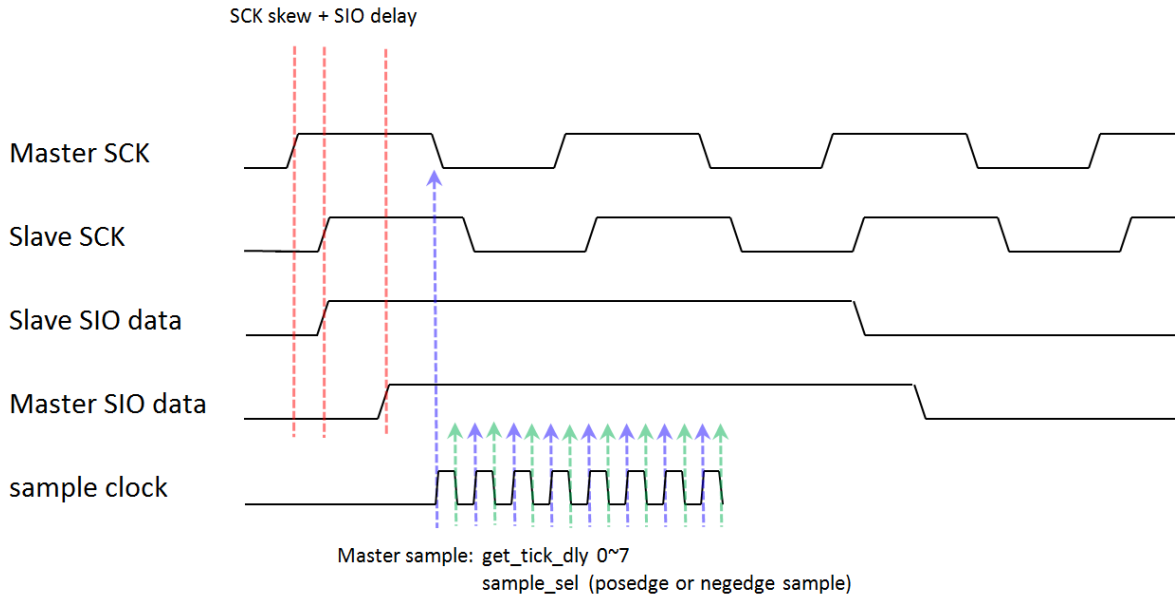

Figure 6.1-4. SPI master controller delay sample
- Slave feeds back SIO data to master. Each interval of sample delay is 10.42 ns, and **SAMPLE_SEL** defines the trigger edge of sample clock, such as, if 0 - positive edge sample data; 1 - negative edge sample data. The detailed description is shown in Figure 6.1-4.